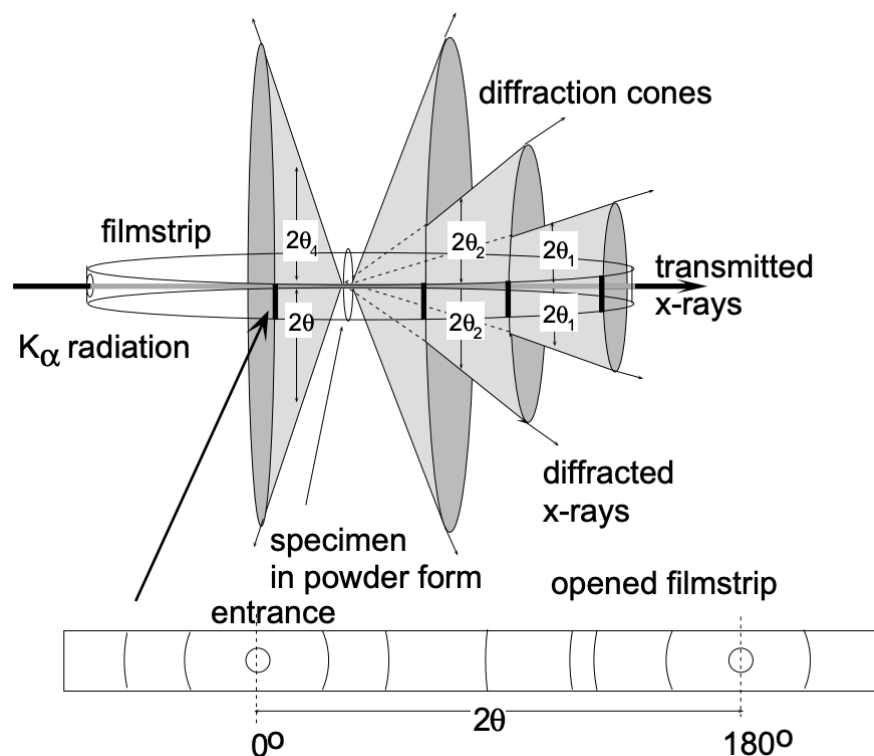

Figure 12 Debye-Scherrer powder diffraction setup and analysis
In the **Debye-Scherrer method** (fig.12) the sample is ground to a powder and placed (in an ampoule) into the center of a Debye-Scherrer camera. Exposed to monochromatic X-rays, in this way a large number of diffracted cone-shaped beams are generated
In a Debye-Scherrer arrangement, after exposing a powder of a crystalline material to monochromatic X-rays, the developed film strip will exhibit diffraction patterns such as indicated in fig. 12. Each diffraction peak (dark line) on the film strip corresponds to constructive interference at planes of a particular interplanar spacing  $[d_{(hkl)}]$ . The problem now consists of "indexing" the individual lines - i.e., determining the Miller indices (hkl) for the diffraction lines:
Indexing in step-by-step sequence is thus performed as follows:  $\theta$  values of the lines are obtained from the geometric relationship of the unrolled film strip. Between the exit hole of the X-ray beam ( $2\theta = 0^\circ$ ) and the entrance hole ( $2\theta = 180^\circ$ ) the angular relationship is linear (fig. 12). The increasing  $\theta$  values for successive lines are indexed  $\theta_1, \theta_2, \theta_3$ , etc., and  $\sin^2 \theta$  is determined for each. If the system is simple cubic we know that all planes present will lead to diffraction and the successive lines (increasing  $\theta$ ) result from diffraction on planes with decreasing interplanar spacing: (100), (110), (111), (200), (210), (211), (220), etc. From equation (3) above we recognize: